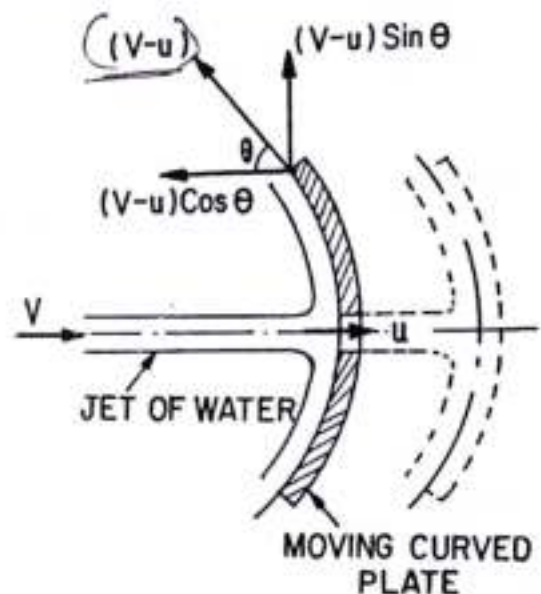

Fig. 17.12. Jet striking a curved moving plate.
**17.4.3. Force on the Curved Plate when the Plate is Moving in the Direction of Jet.** Let a jet of water strikes a curved plate at the centre of the plate which is moving with a uniform velocity in the direction of the jet as shown in Fig. 17.12.